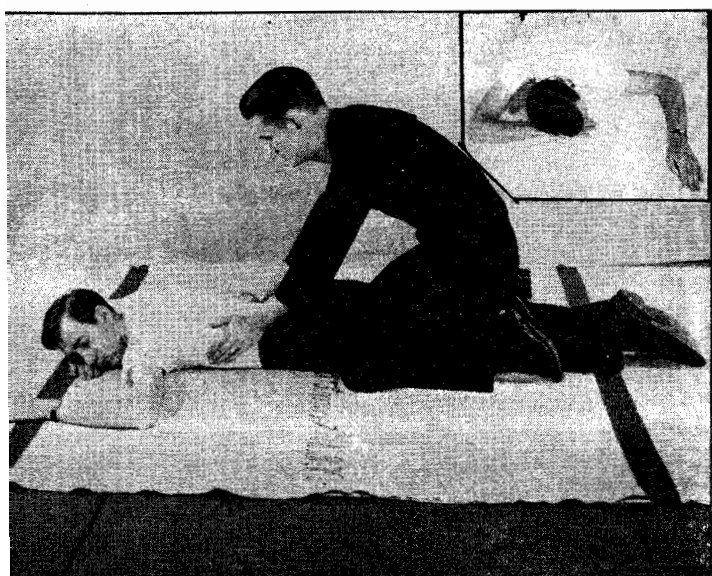

FIGURE 1
1. All Photographs, Figures 1 to 24, incl.
1. LAY THE PATIENT ON HIS BELLY, ONE ARM EXTENDED DIRECTLY OVERHEAD, THE OTHER ARM BENT AT ELBOW AND WITH THE FACE TURNED OUTWARD AND RESTING ON HAND OR FOREARM, SO THAT THE NOSE AND MOUTH ARE FREE FOR BREATHING. (SEE INSET FIG. 1.)
2. KNEEL STRADDLING THE PATIENT'S THIGHS WITH YOUR KNEES PLACED AT SUCH A DISTANCE FROM THE HIP BONES AS WILL ALLOW YOU TO ASSUME THE POSITION SHOWN IN FIGURE 1.
PLACE THE PALMS OF THE HANDS ON THE SMALL OF THE BACK WITH FINGERS RESTING ON THE RIBS, THE LITTLE FINGER JUST TOUCHING THE LOWEST RIB, WITH THE THUMB AND FINGERS IN A NATURAL POSITION, AND THE TIPS OF THE FINGERS JUST OUT OF SIGHT (SEE FIG. 1.)